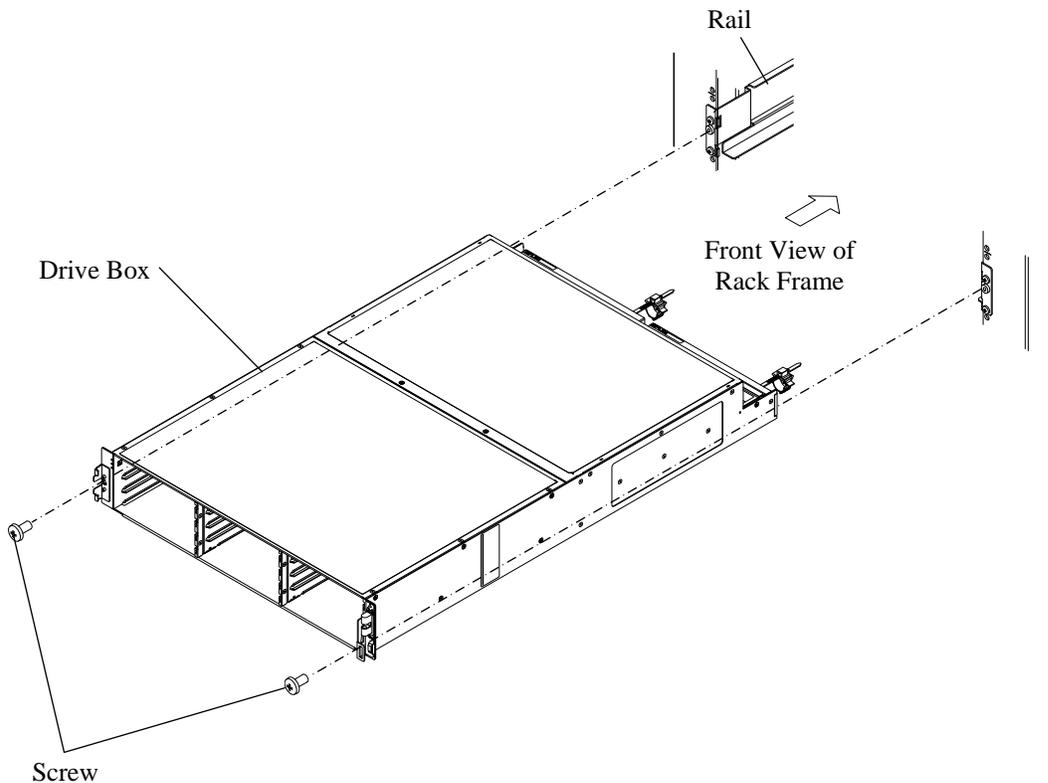

Fig. 3.44.1-8 Removal of Drive Box
- g. Attach the plate to the left side of the front of the Drive Box. (See Fig. 3.44.1-7.)
- h. Attach the side cover to the left side of the front of the Drive Box. (See Fig. 3.44.1-6.)